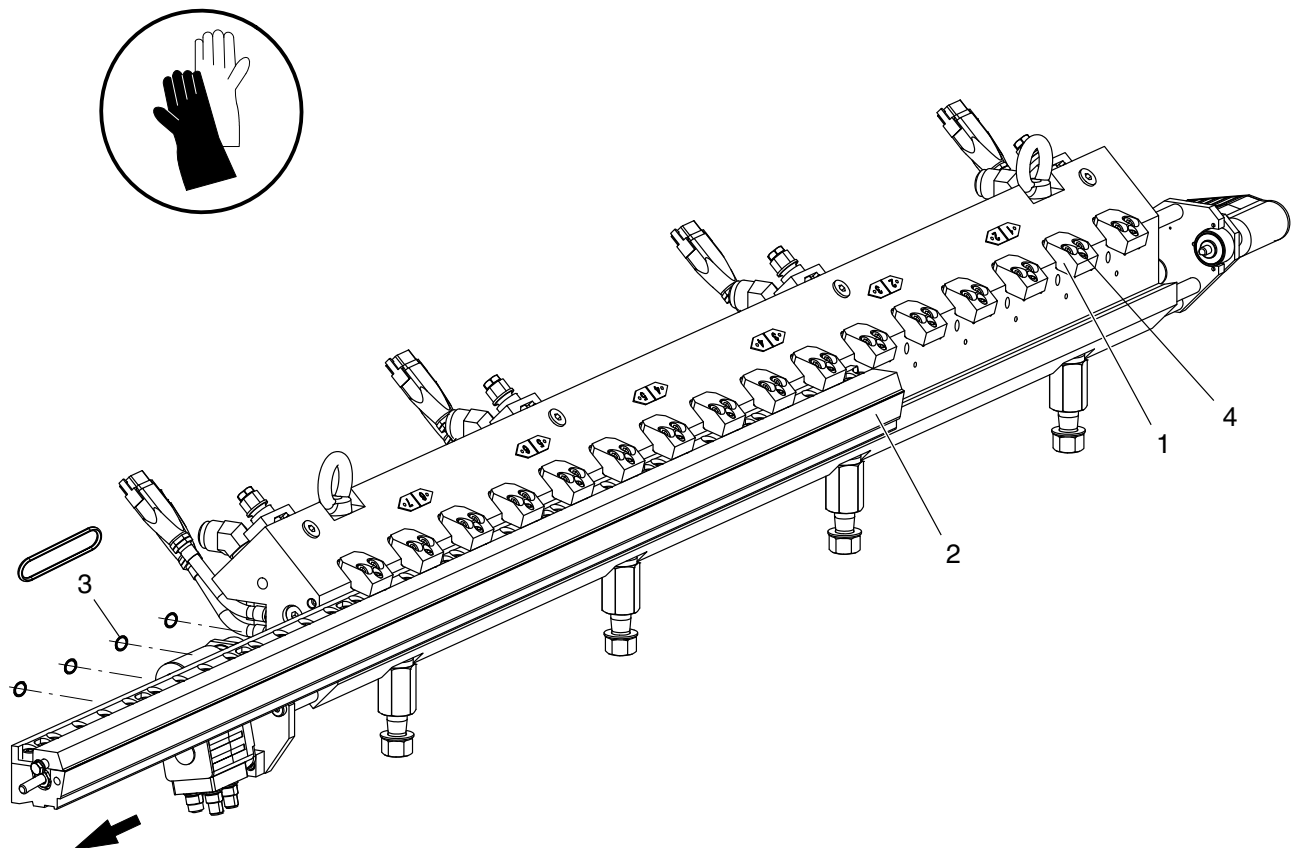

Fig. 37
10. Pull out the entire nozzle assembly (2, Fig. 37) with two people when the applicators are large. Check that all of the sealing rings\* (3) have come out with the nozzle and none are left in the body.
1. Loosen the three bearing screws (6) but do not remove them.
2. Verify that all of the sealing rings (3, Fig. 37) are seated properly and insert the nozzle. Put the washer/screw (5) back into place.
3. Slide the coupling bushing over the shaft and spindle and tighten the setscrews (1) with 5 Nm. The bearing then automatically adjusts itself.
4. Tighten the coupling bushing clamping screw (2) and the three bearing screws (6) again.